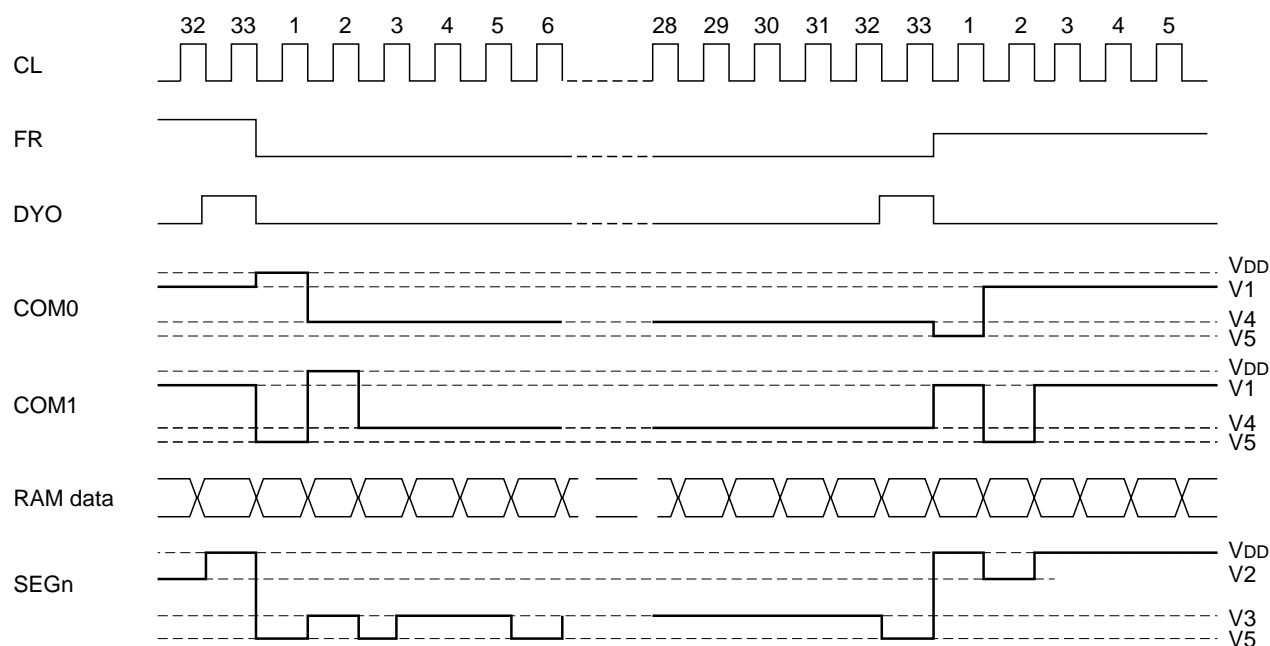

Fig. 6
When an AC signal (FR) is switched, a high pulse is output as a DYO output at the training edge of the previous display clock. Refer to Fig. 6. The DYO output is output only in master mode. When the S1D15300 series is used for multi-chip, the slave requires to receive the FR, CL, DOF signals from the master.